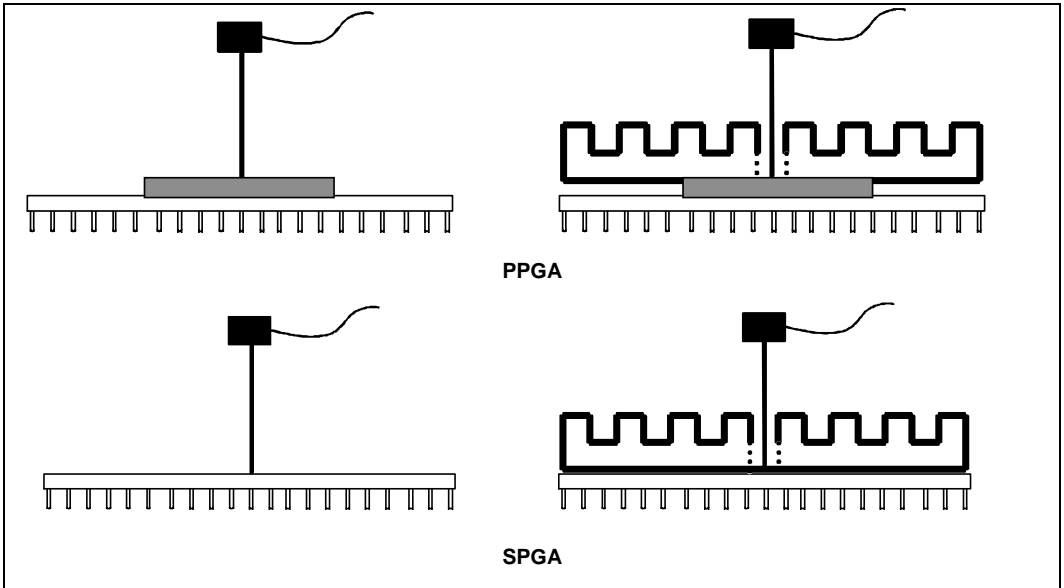

Figure 14. Technique fore Measuring T_c on PPGA and SPGA Packages
To verify that the proper T_C is maintained, it should be measured at the center of the package top surface (opposite of the pins). The measurement is made in the same way with or without a heatsink attached. When a heatsink is attached, a hole (smaller than 0.150" diameter) should be drilled through the heatsink to allow probing the center of the package. See Figure 14 for an illustration of how to measure T_C.
- The thermocouple should be attached at a 90-degree angle as shown in Figure 14.